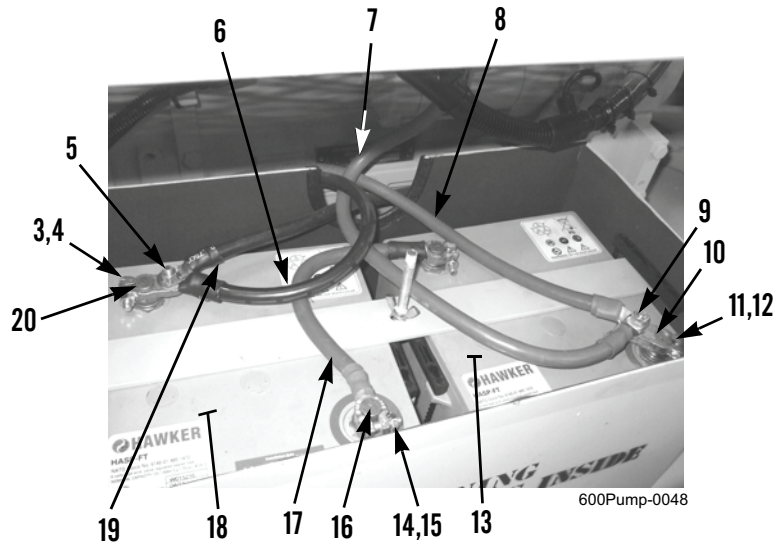

Figure 2. Battery Cables.
- a. Remove nut (Figure 2, Item 5) and disconnect negative battery cables (Figure 2, Items 6 and 19) from negative terminal of battery (Figure 2, Item 18).
- b. Remove nut (Figure 2, Item 9) and disconnect positive battery cables (Figure 2, Items 7 and 8) from positive terminal of battery (Figure 2, Item 13).
- c. Loosen nut (Figure 2, Item 14) and bolt (Figure 2, Item 15) and disconnect jumper cable (Figure 2, Item 17) and terminal lug (Figure 2, Item 16) from positive terminal of battery (Figure 2, Item 18).
- d. Repeat step c to remove jumper cable (Figure 2, Item 17) from negative terminal of battery (Figure 2, Item 13).
- e. If damaged, remove nut (Figure 2, Item 3), bolt (Figure 2, Item 4), and terminal lug (Figure 2, Item 20) from battery (Figure 2, Item 18).
- f. If damaged, remove nut (Figure 2, Item 11), bolt (Figure 2, Item 12), and terminal lug (Figure 2, Item 10) from battery (Figure 2, Item 13).
- g. Disconnect negative battery cable (Figure 2, Item 6) and positive battery cable (Figure 2, Item 8) from NATO electrical receptacle (WP 0035).
- h. Disconnect negative battery cable (Figure 2, Item 19) from chassis ground (WP 0109).
- i. Disconnect positive battery cable (Figure 2, Item 7) from starter solenoid (WP 0109).